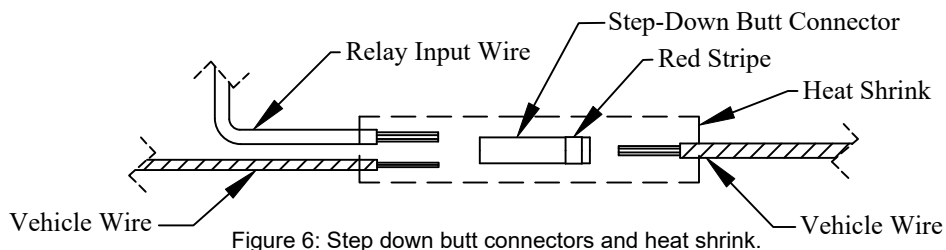
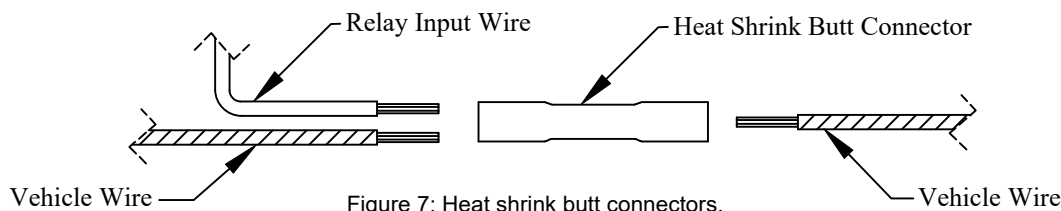
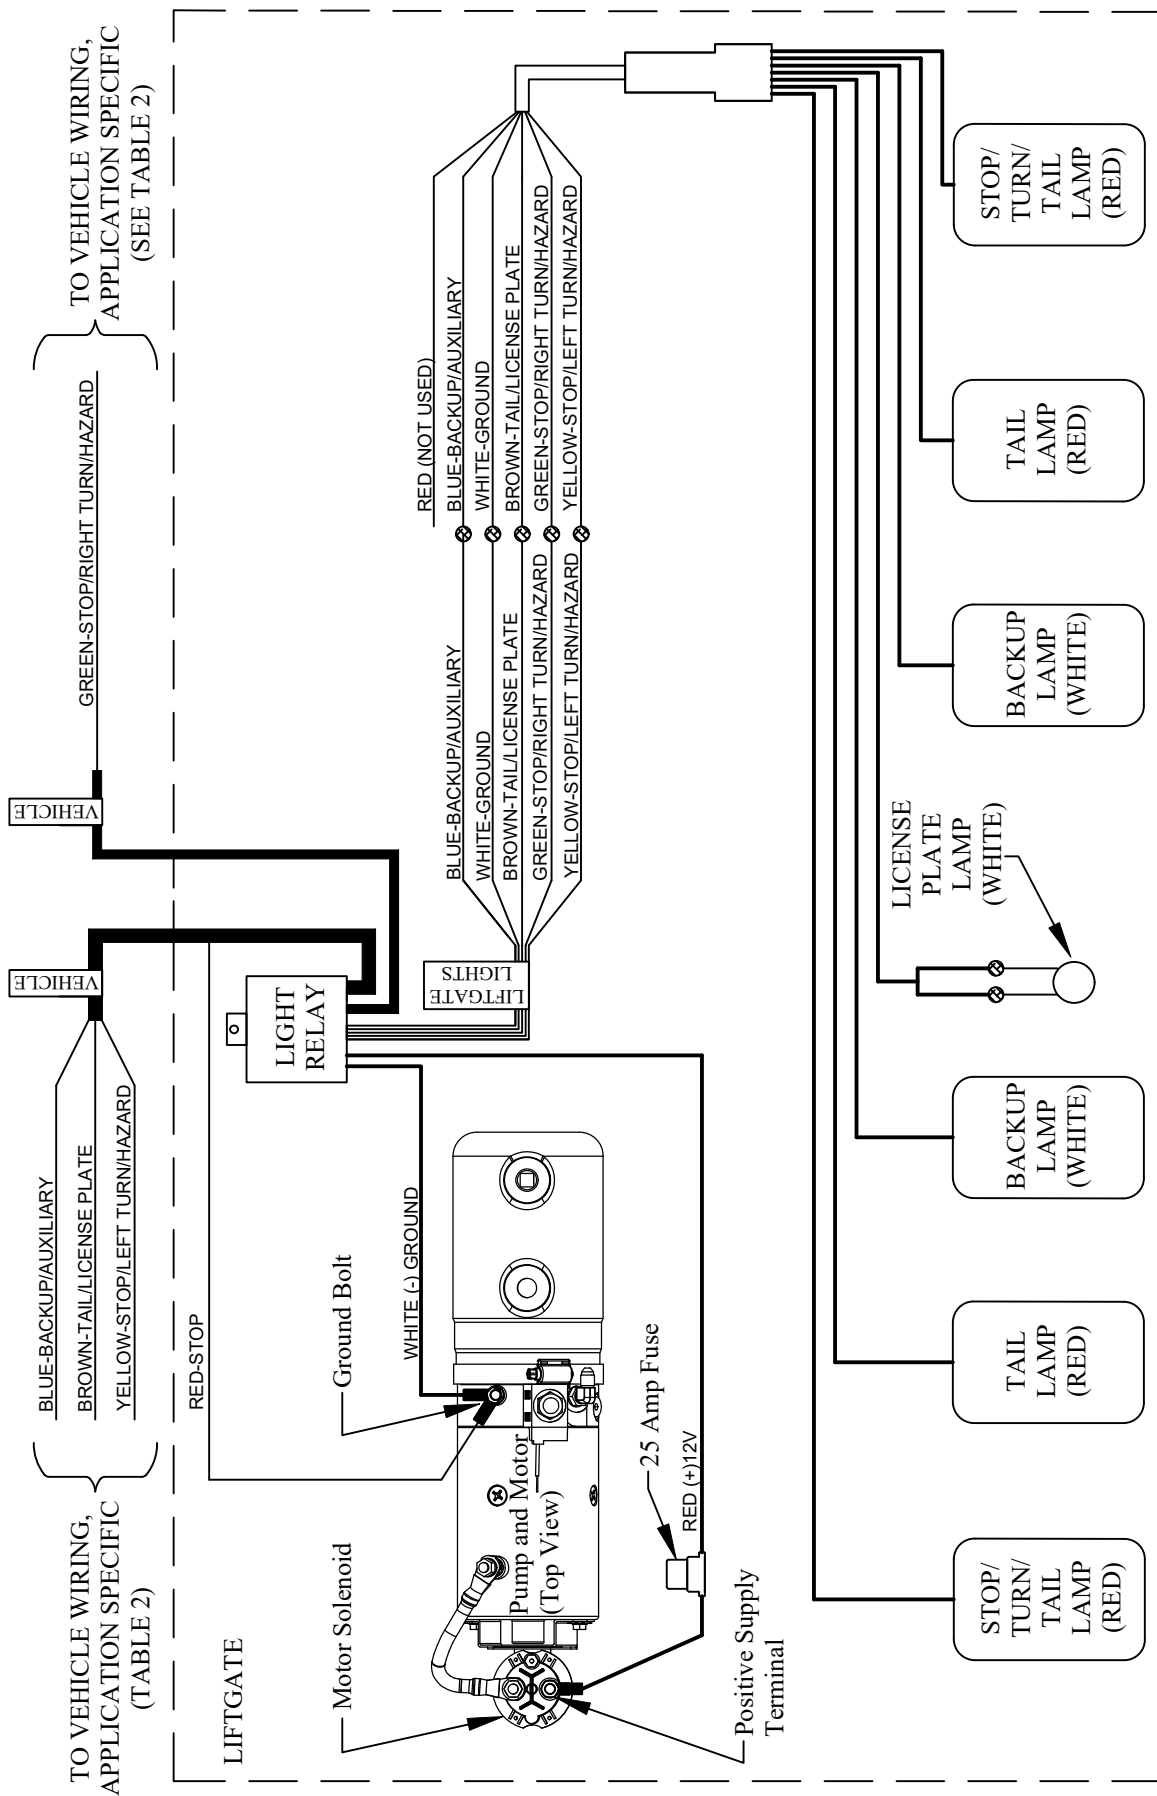
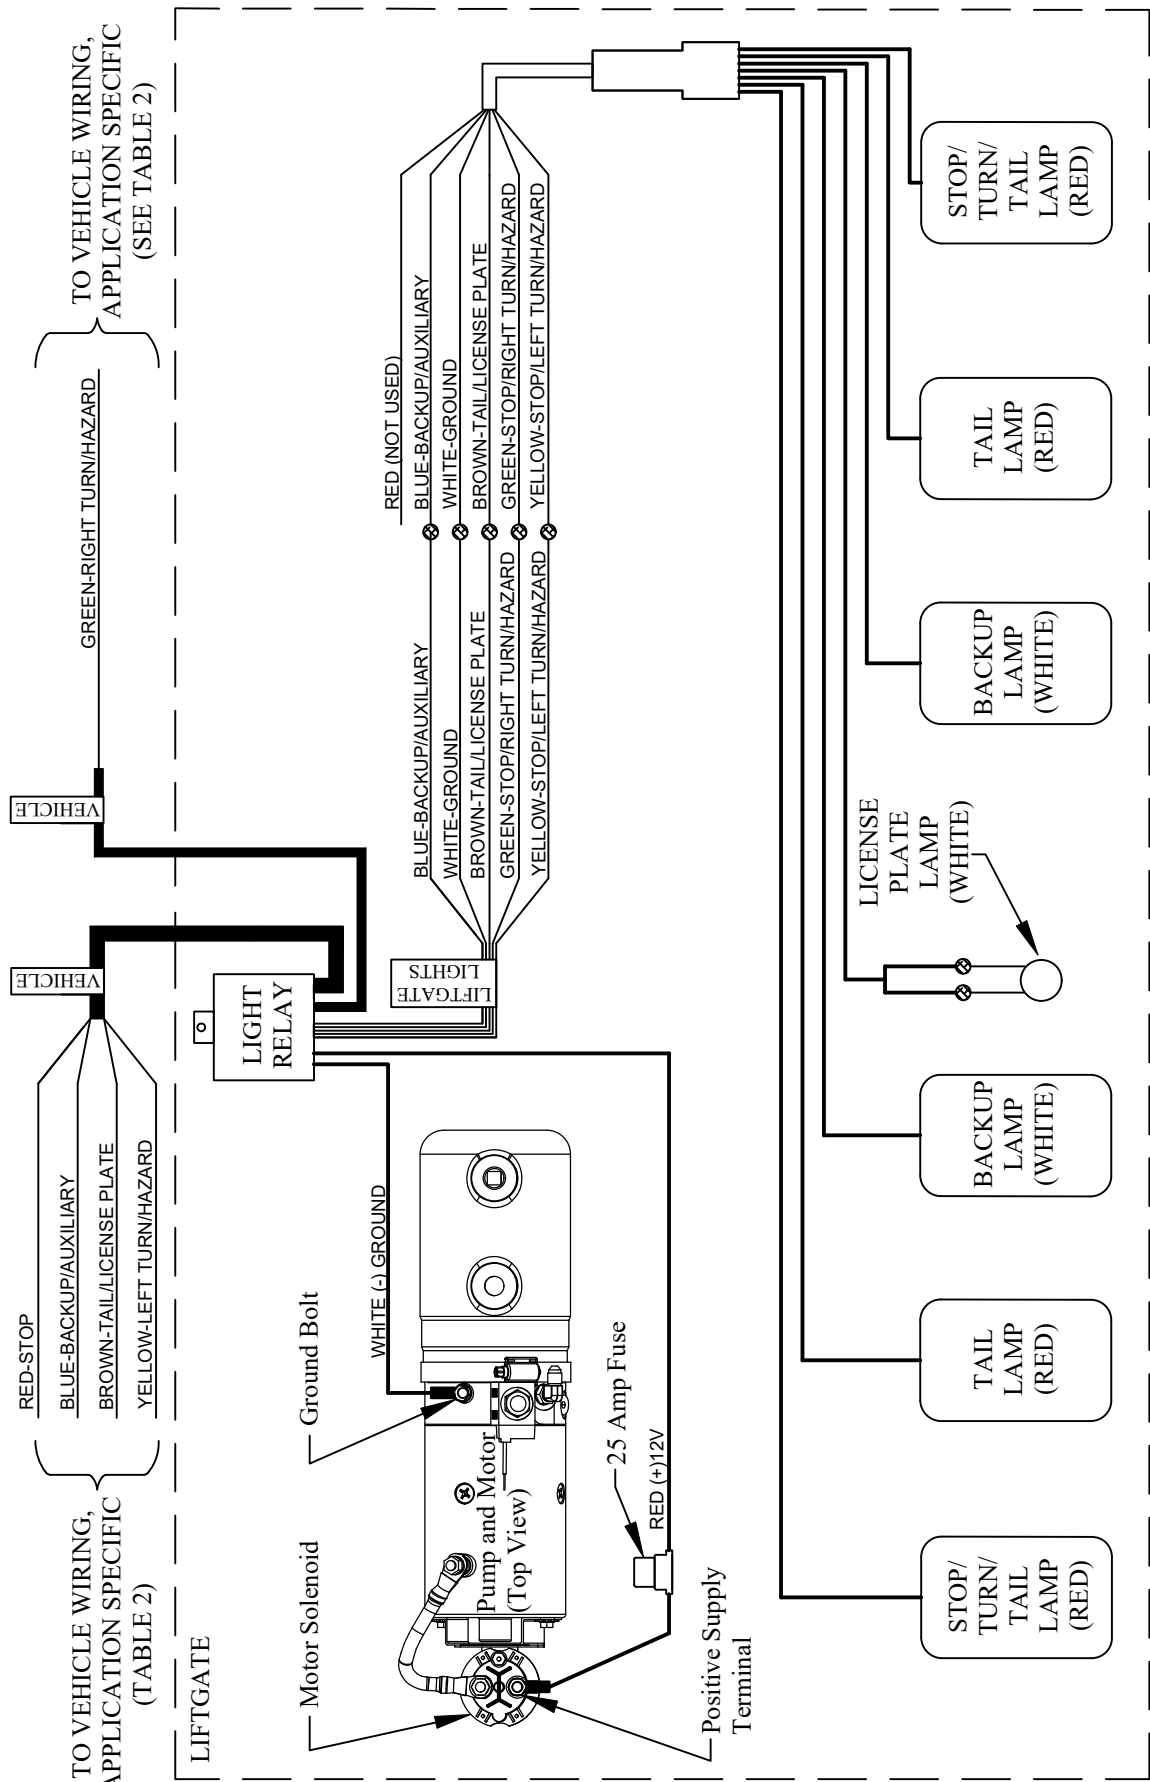

Figure 6: Step down butt connectors and heat shrink.
Figure 7: Heat shrink butt connectors.
Figure 8: Wiring Diagram, Installing 015862 12V Light Relay on Vehicles with Combined Stop/Turn (2-Wire) Lighting Systems
Figure 9: Wiring Diagram, Installing 015862 12V Light Relay on Vehicles with Separated Stop/Turn (3-Wire) Lighting Systems
13. Connect the relay's red stop wire to the ground bolt on the rear of the hydraulic pump if the relay will be wired to a combined stop/turn (2-wire) system (Figure 8).
14. Connect the relay's ground (-) wire to the ground bolt on the rear of the hydraulic pump (Figure 8 or Figure 9).
16. Connect the relay's input wires, labeled "VEHICLE", by splicing to the corresponding wires in the vehicle's tail light harness or trailer tow harness (Figure 8 or Figure 9). Two types of butt connectors are provided (Figure 6 and Figure 7).
The step down butt connectors (22-18 gauge to 16-14 gauge) and heat shrink are used for small gauge wire that is commonly found in the vehicle's tail light harness. The red stripe on the butt connector indicates the small end of the connector (Figure 6).
The heat shrink butt connectors (16-14 gauge) are used for larger gauge wire that is commonly found in the vehicle's trailer tow harness (Figure 7).
18. Connect the relay's five output wires, labeled "LIFTGATE LIGHTS", to the corresponding wires in the liftgate's light harness using the provided heat shrink butt connectors (Figure 8 or Figure 9).
19. Connect the relay's positive (+) wire to the positive (+) supply terminal on the motor solenoid (Figure 8 or Figure 9).
20. Verify that the relay wiring matches the corresponding wiring diagram (Figure 8 or Figure 9).